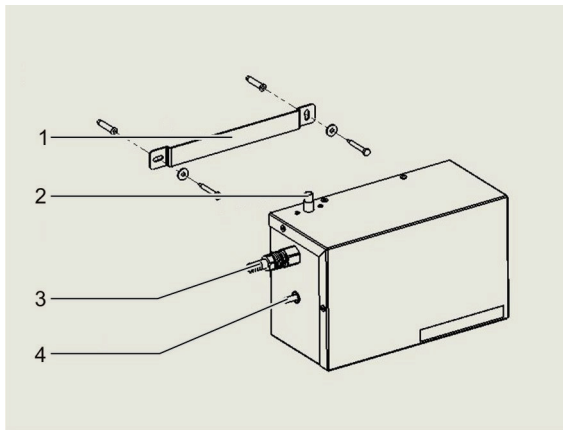

Fig. 1: Pump-out kit universal
1. Attach the wall mount (Fig. 1, item 1) to the wall using suitable screws.
2. Connect one condensate hose (diam. 12 mm) each to the water inlet (Fig. 1, item 2) and the pump outlet (Fig. 1, item 3).
4. Connect the power cable (Fig. 1, item 4).